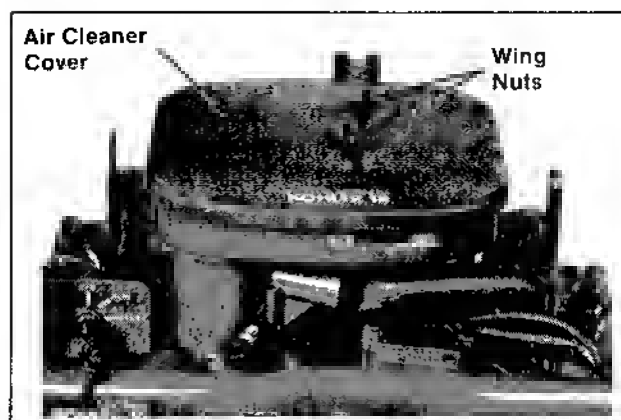

Figure 11-52. Installing Air Cleaner Cover.
3. Install the air cleaner cover and wing nuts. Tighten the wing nuts 1/2 to 1 full turn after nuts contact cover. Do not overtighten. Refer to Figure 11-52.